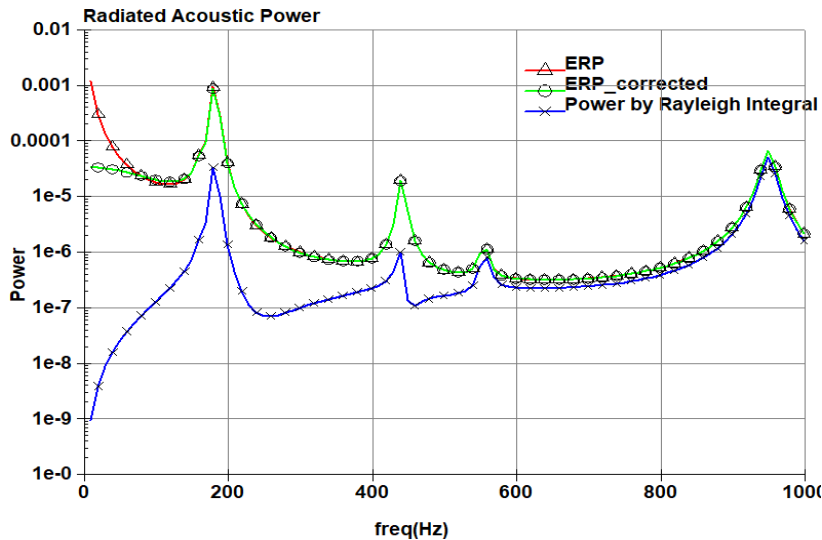

Fig 6. Radiated acoustic power (watt) by classic ERP, corrected ERP and Rayleigh integral
Since the “RADEFF” is set to be 1 in the input deck, LS-DYNA also runs radiated acoustic power calculation based on Rayleigh integral, and calculates the radiation efficiency, which is given as a ratio between the radiated acoustic power based on Rayleigh integral, and the acoustic power based on plane wave assumption (which is ERP absolute value computed before). By setting “ERPREF” = -1, one can also introduce the correction on the radiation efficiency for low frequencies for ERP, and get a “corrected” ERP absolute value. Figure 6 below shows the radiated acoustic power, given by the three methods: 1) classic ERP; 2) ERP with corrected radiation efficiency for lower frequencies; and 3) Rayleigh integral.
As can be seen in Figure 6, the radiated acoustic power by the classic ERP, the ERP with corrected radiation efficiency at low frequencies, and Rayleigh integral method have a good match at higher frequencies (e.g. frequency over 600 Hz). For the lower frequencies, the radiated acoustic power calculated by the Rayleigh Integral method is much lower than those given by ERP methods (classic one and the one with low frequency radiation efficiency correction). Besides, from Figure 6, one can see that the correction on the ERP absolute value by equation (6) has only influence on the results in low frequency range.